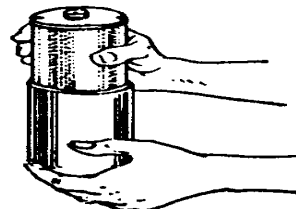

Figure 8
- Remove the filter element (Primary or secondary filter) from the bowl and discard it. Clean the bowl with clean fuel oil. Figure 8.